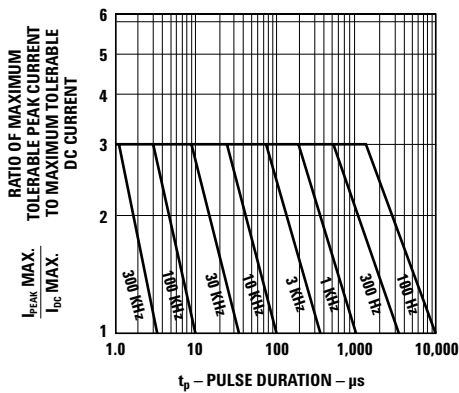

Figure 5. Maximum tolerable peak current vs. pulse duration. (I_{DC} MAX as per MAX ratings).
1. See Figure 5 (Red), 10 (Yellow), or 15 (Green) to establish pulsed operating conditions.